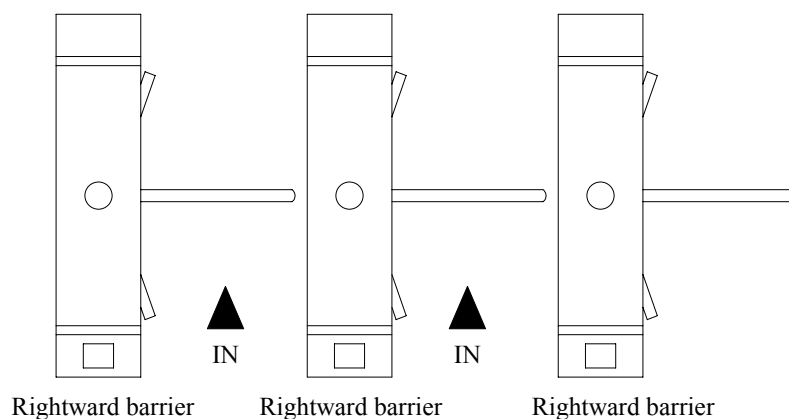

Figure 2
- 2) Rightward barrier: along passage way, barrier rod pointing to the right, as shown in Figure 2